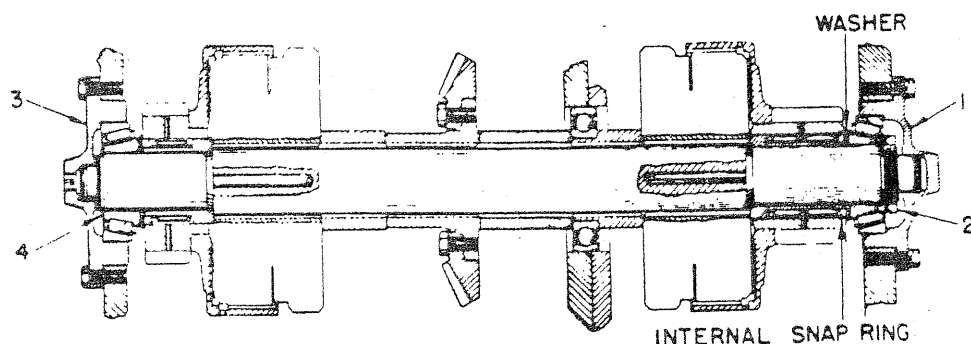

Figure 7
2. Disconnect the hydraulic line to bearing retainer (3) Figure 7.
4. Remove the R.H. bearing retainer (1) Figure 7.
5. Loosen bearing nut (2) enough to permit removal of snap ring (4)
6. Replace bearing retainer (3), Figure 7, for support. (If drum is to be removed, remove L.H. drum shaft nut.)
9. Remove bearing nut (2), Figure 7.